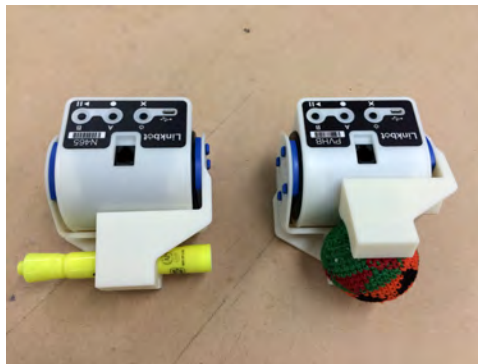

Figure 16.10: A Linkbot-I picks up a pen and hackysack.
5. Run the program `gripper.ch` using a Linkbot-L to pick up a highlighter pen and hackysack as shown in Figure 16.10. The gripper is opened by 90 degrees first, joint 2 rotates by 90 degrees, then close the gripper. Write a program `gripper2.ch` using a Linkbot-I to open the gripper by 90 degrees first, then close the gripper.
- Run the program `opengripper.ch` to open and close a gripper as shown in Figure 16.10 to grab an object.